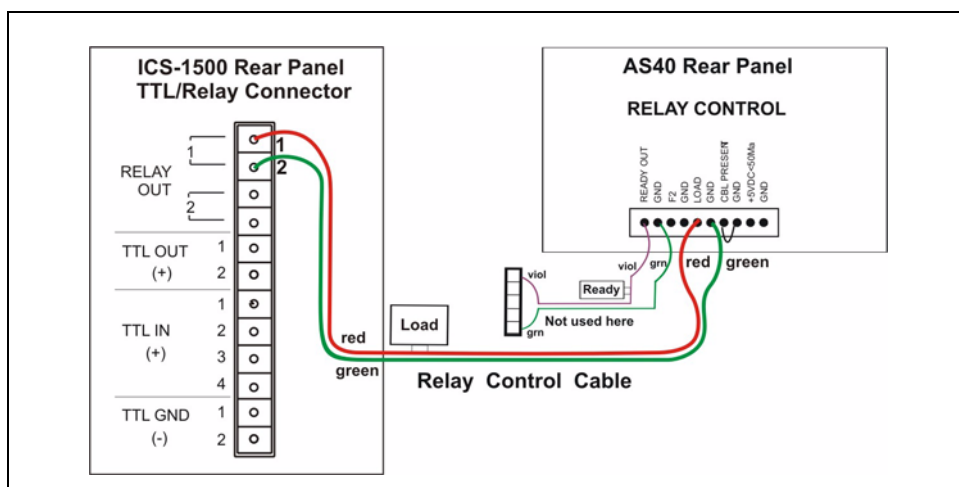

Figure 45. Example AS40 Autosampler Connection
8. Connect the relay control cable's 10-position connector plug to the **RELAY CONTROL** connector on the AS40 rear panel (see Figure 45).
9. Plug the 12-position connector plug into the TTL and relay connector on the ICS-1500 rear panel (see Figure 45). Make sure the red wire connects to position 1 and the green wire connects to position 2.